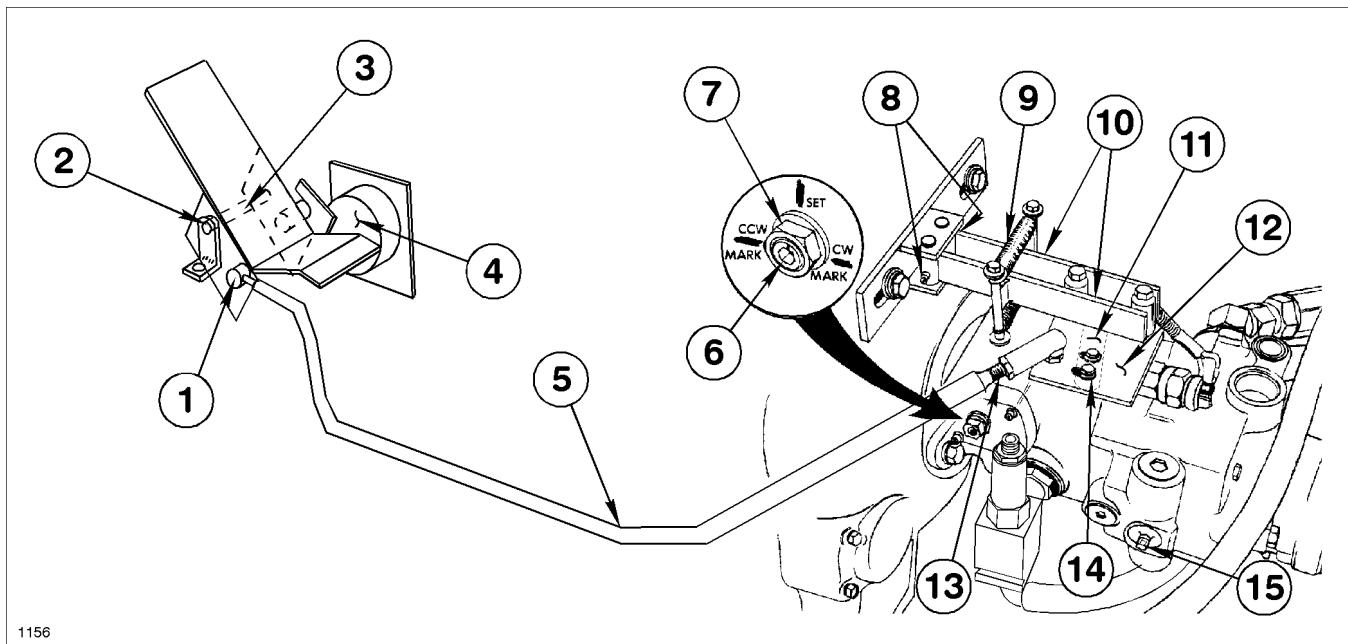

Figure 43
## LINKAGE MAINTENANCE (FIG. 43)
It is very important that the foot pedal operate freely and return positively to the NEUTRAL or CENTERED position. Periodic maintenance of the traction pedal requires applying grease to the grease fittings on the linkage control arms as shown in Fig. 43.
## LINKAGE TROUBLESHOOTING (FIG. 43)
## TRACTION PEDAL / TRANSMISSION NEUTRAL ADJUSTMENT (Fig.43)
4. Pull both control arms away from the control plate bearings (Fig. 43). When the control plate is adjusted correctly, the control plate WILL NOT rotate when the control arms are pulled away.
7. To adjust the control plate, loosen the two control plate mounting bolts, so it allows the control plate to center itself and allows the servo control arm to move independently as shown in Fig. 43 Retighten the two control plate mount bolts and verify the proper adjustment by pulling both control arms away from the control plate bearings. The control plate SHOULD NOT ROTATE! After proper adjustment proceed to STEP 10.